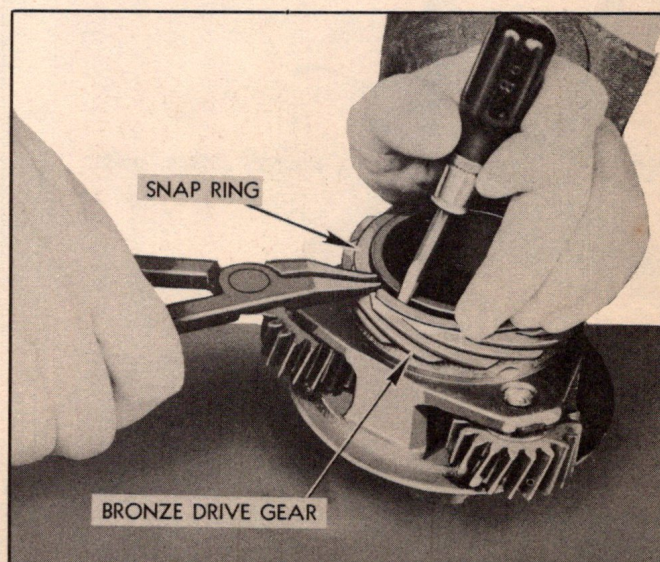

Fig. 219—Removing Oil Pump and Governor Drive Gear Snap Ring
1. Remove snap ring (Fig. 219).